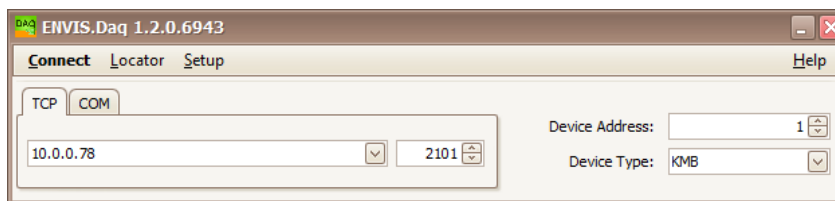

Figure 13: Main window of the ENVIS.Daq application - enter communication type, choose its parameters and click *Connect* to continue.
4. Fill in communication line parameters. A connection form with typical parameters is shown in figure 13.